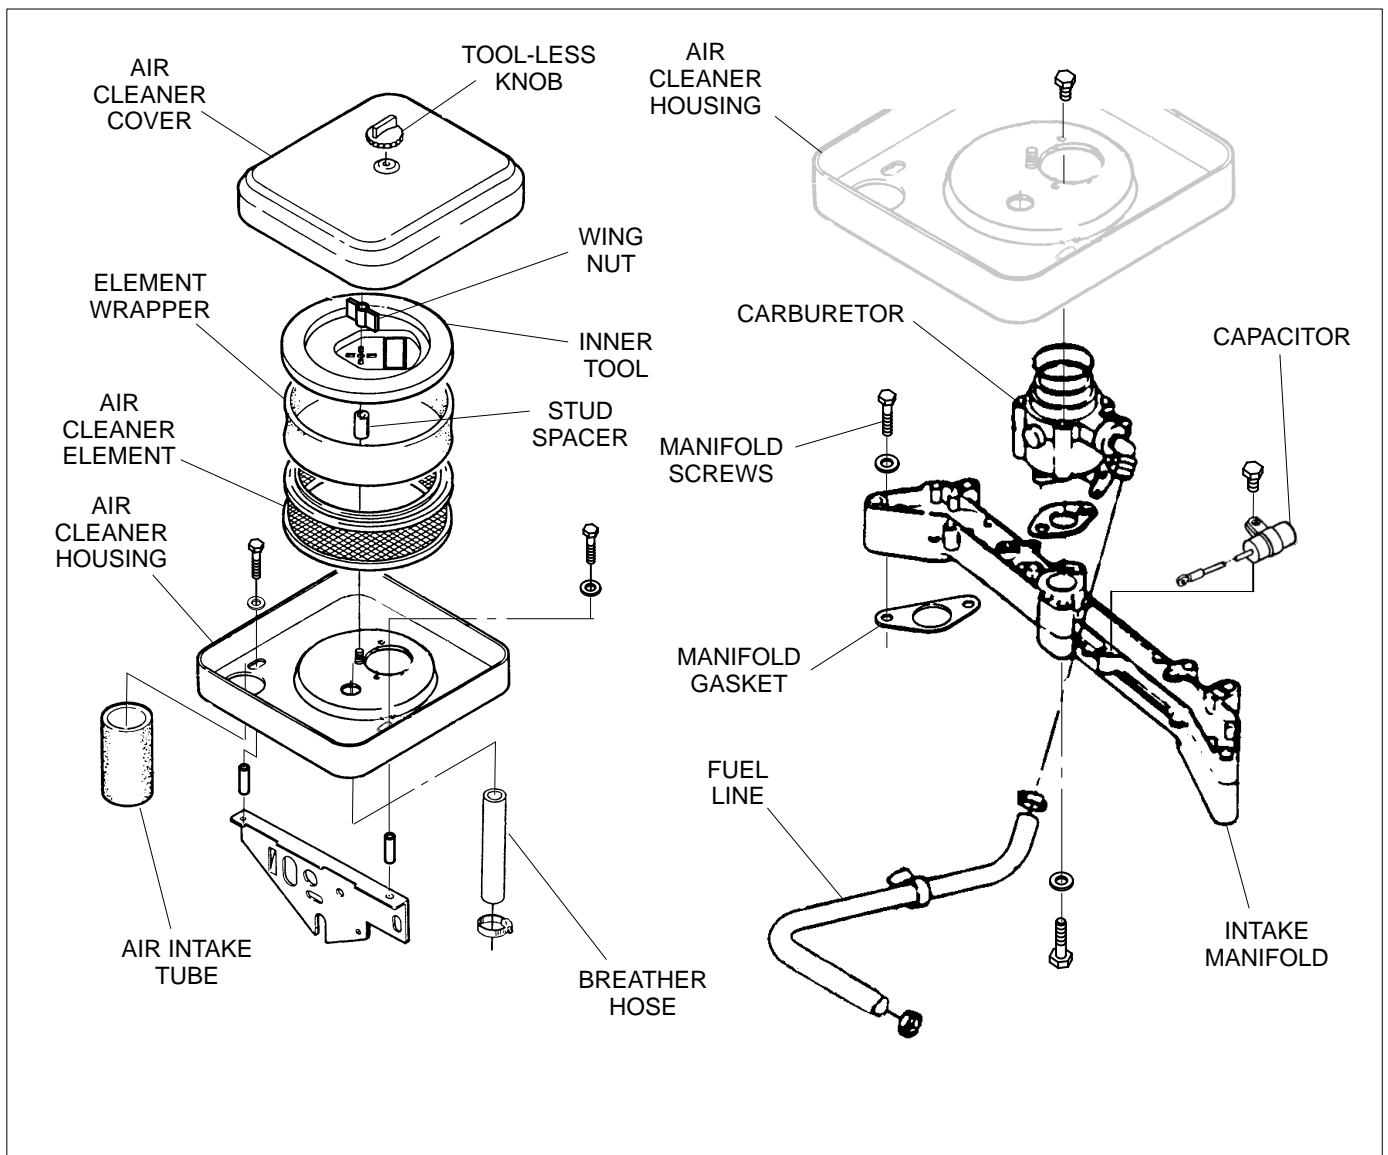

FIGURE 6-11. AIR CLEANER/INTAKE MANIFOLD
2. Remove the tool-less knob and lift off the air cleaner cover (Figure 6-11).
The following procedure describes how to remove the carburetor and intake manifold (Figure 6-11) as an assembly without having to remove the exhaust assembly. (Adjustment procedures, such as valve clearance adjustment, requires the intake manifold to be removed but not the exhaust assembly.)
2. Disconnect the fuel line and governor linkage from the carburetor (Figure 6-11).